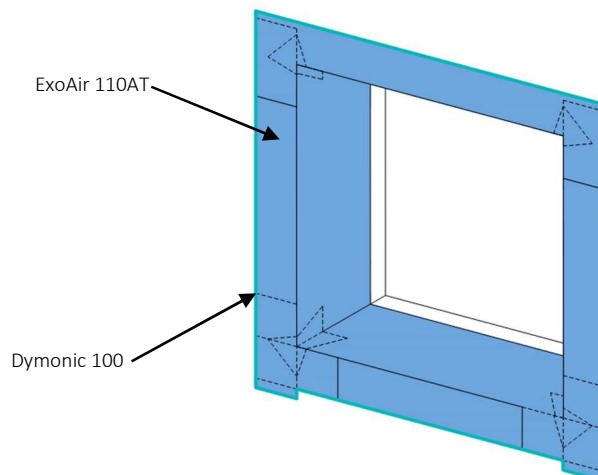

Fig. 17
- g. Apply and tool Dymonic 100 sealant on ExoAir 110AT edges and any other negative laps/skyward facing edges. Dymonic 100 shall extend a minimum 1/2" onto both the ExoAir 110AT and the underlying substrate. Using a mil gauge, ensure that a minimum of 40 wet mils have been applied; if not, reapply sealant to achieve 40 wet mils. – **Figure 17.**